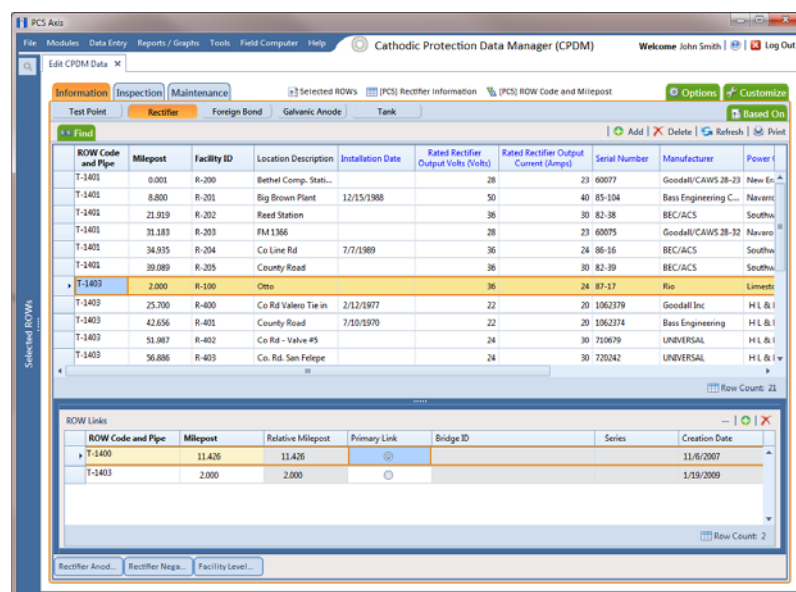

Figure 7-109. ROW Links
- 5 Select a row of records in the *Rectifier Information* grid with the rectifier you want to link to a pipeline segment. For example, the record for pipeline segment *T-1403* is selected in the following figure (Figure 7-109, page 339).
- 6 Click the minimize button  in the upper right-hand corner of the *Facility Level Override* mini-grid to hide the mini-grid. Then double-click the **ROW Links** button  to open the *ROW Links* mini-grid (Figure 7-109).